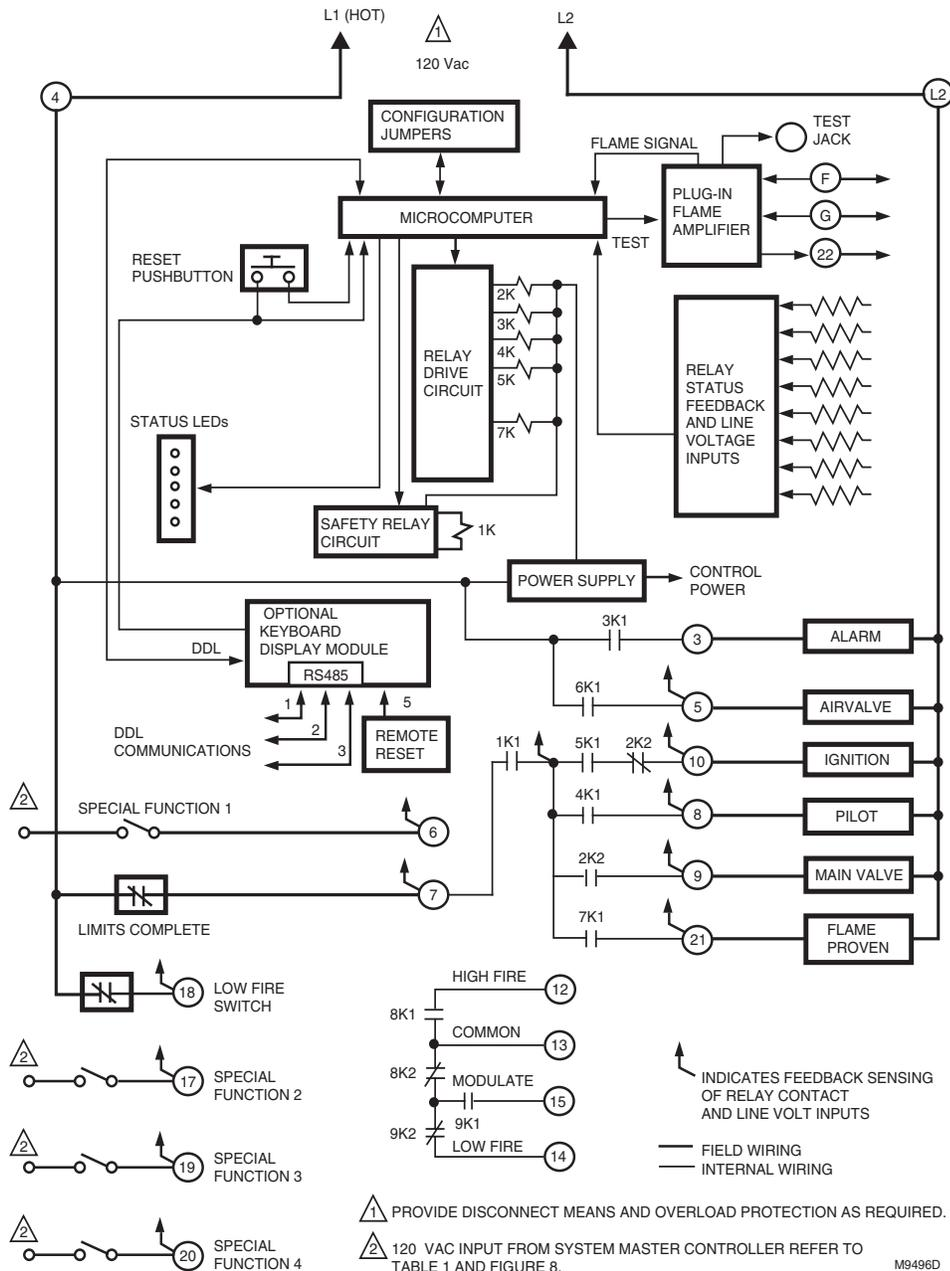

Fig. 10. RM7888A internal block diagram.
- a. For the internal block diagram of the RM7888A, see Fig. 10.